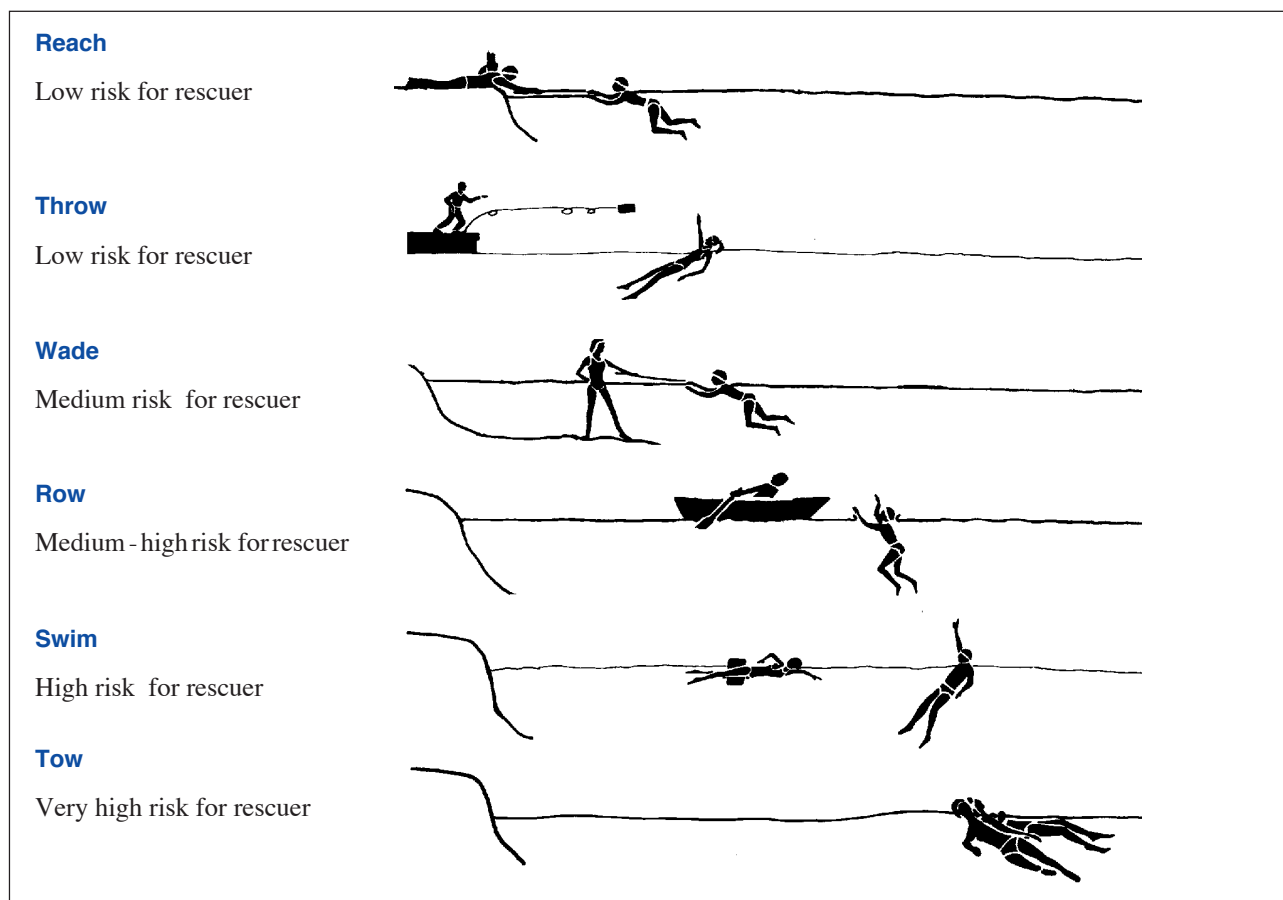

Figure 140.1 Suggested steps to rescue with associated risk, adapted from Royal Lifesaving Association manual
2. Discuss as a group the most appropriate method for rescue from a pool or reef situation as shown in Figure 140.1 considering such factors as individuals strength, confidence etc.